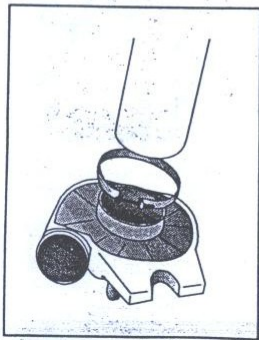

Fig. 1
1. Install the clamp onto the vacuum tube (Fig. 1).
2. Install the tube. Tighten the clamp (Fig. 1).